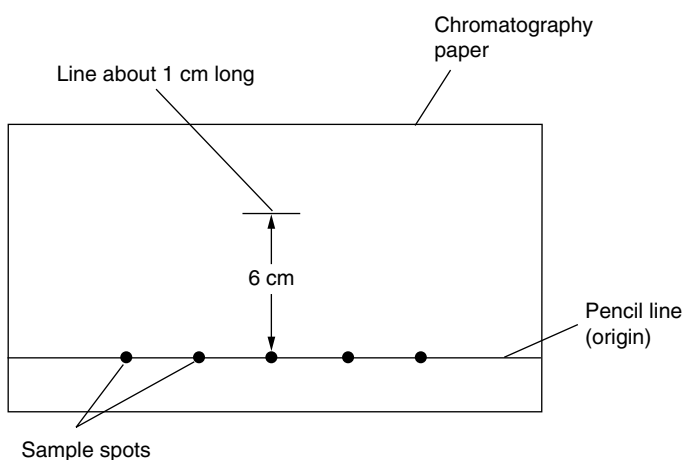

Figure 3.1
2. Obtain a piece of chromatography paper 24 to 25 cm long by 11 to 14 cm wide. Draw a pencil line about 1 cm from the long edge of the paper. (You must use an ordinary pencil for this line. Ink or colored pencil often contains substances that may be soluble in the solvent, producing chromatograms of their own.) This line will indicate the origin (see Figure 3.1). Also draw a line about 1 cm long, 6 cm above the center of the penciled line.
3. Using a different capillary tube for each solution (do not mix them!) transfer a drop of each solution listed below to the penciled line, as shown in Figure 3.1. Apply the spots evenly over the line, leaving a margin of about 3 cm from each short edge of the paper. Use a separate, clean capillary tube for each solution; or, if the solutions are to be